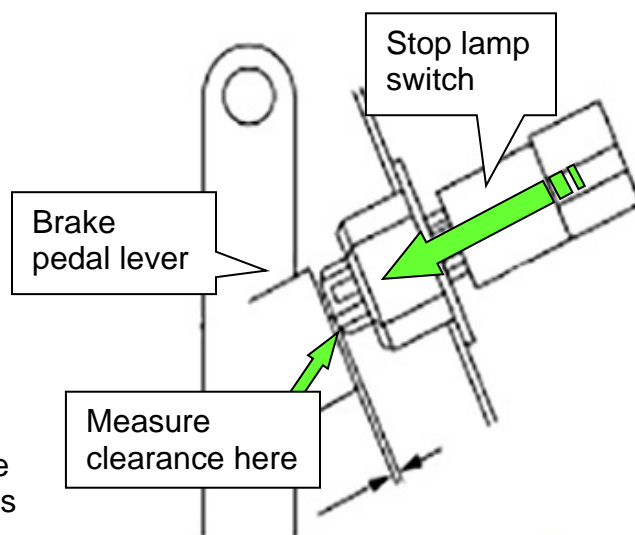

Figure 13
2. While unlocked, gently push the stop lamp switch until its black plastic body contacts the brake pedal lever (Figure 13).
4. Confirm the clearance between brake pedal lever and black plastic body of the stop lamp switch (Figure 13); readjust as necessary.